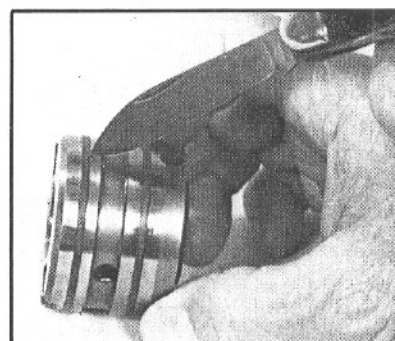

Figure 58
- 24. Remove and discard the two Teflon seal rings (13) from the valve sleeve (15) (FIG. 58).